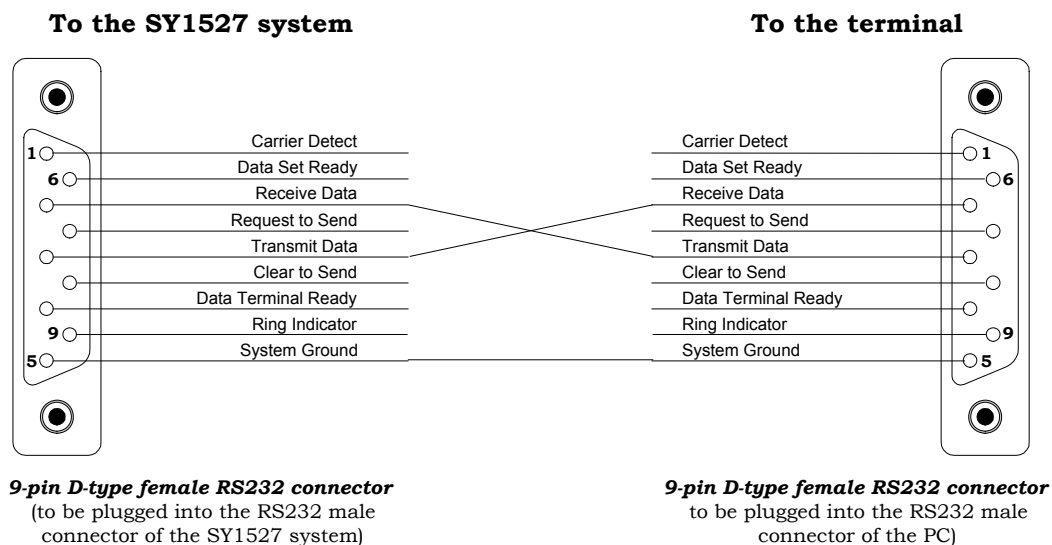
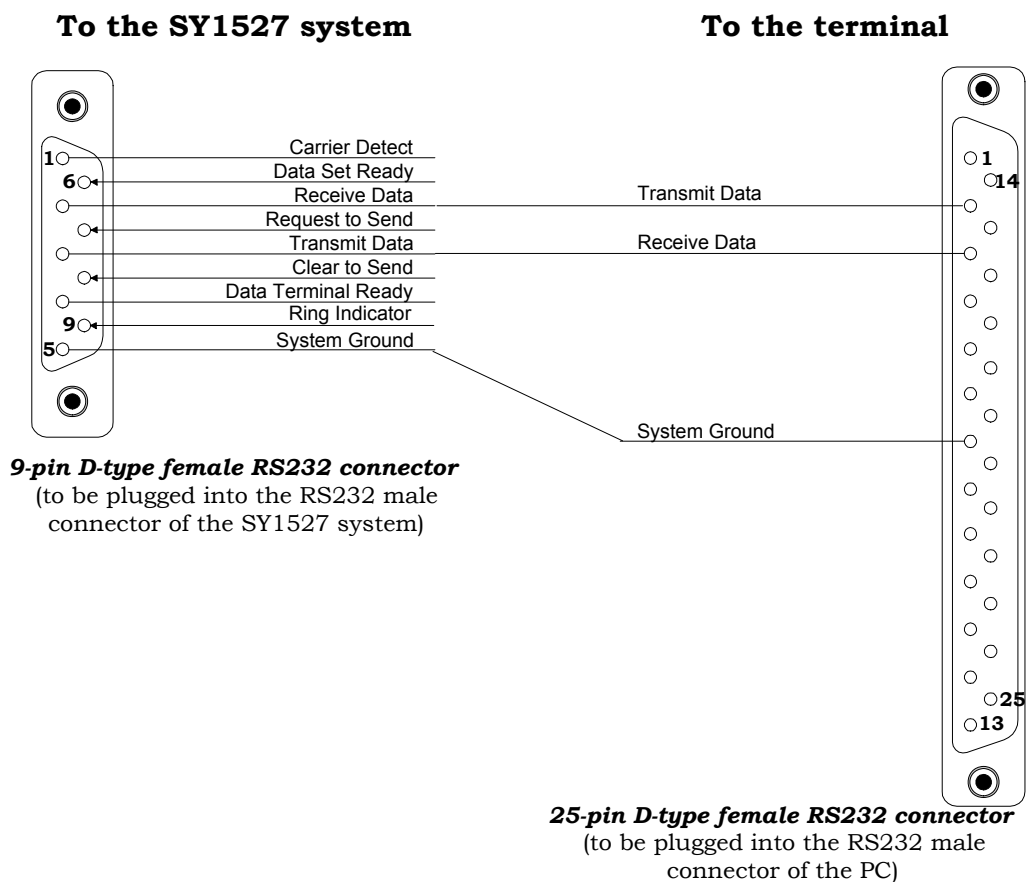

Fig. 7.4 – Electro-mechanical specifications of the RS232 cable (9-pin to 9-pin)
Fig. 7.5 – Electro-mechanical specifications of the RS232 cable (9-pin to 25-pin)
3. Check that the RS232 cable has the characteristics summarised in Fig. 7.4 and Fig. 7.5, according to the type of RS232 connector on the terminal (the example in the figure refers to a DTE device, e.g. a PC);